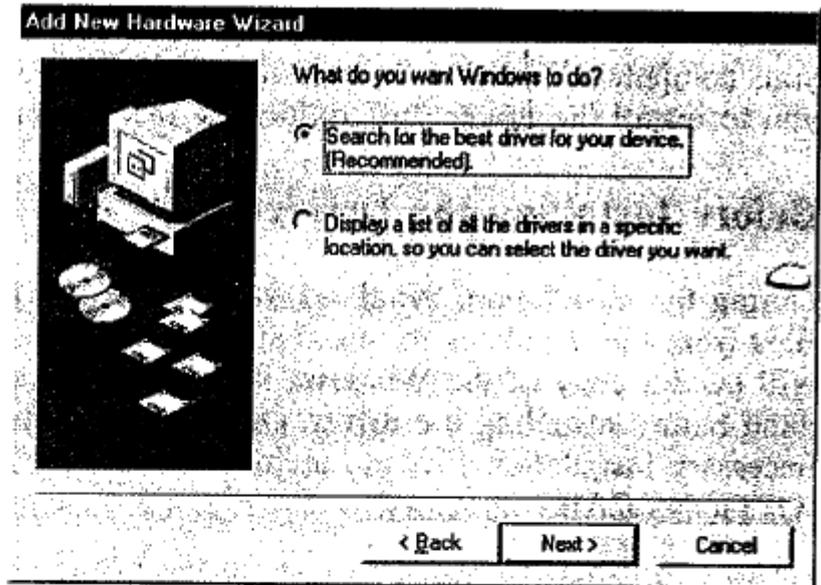

Figure 3-10
4. Select the "Search for the best driver for your device" as shown in Figure 3-10, and click "Next".